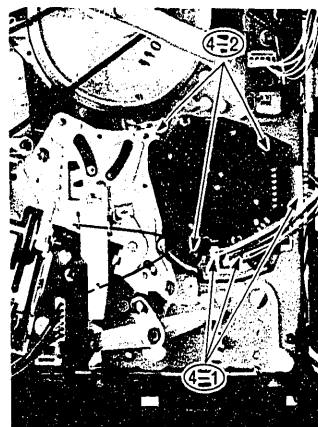

Fig. 25 Cylinder Motor Assembly – Bottom View
4. Cylinder Motor Assembly (Figs. 25, 26)